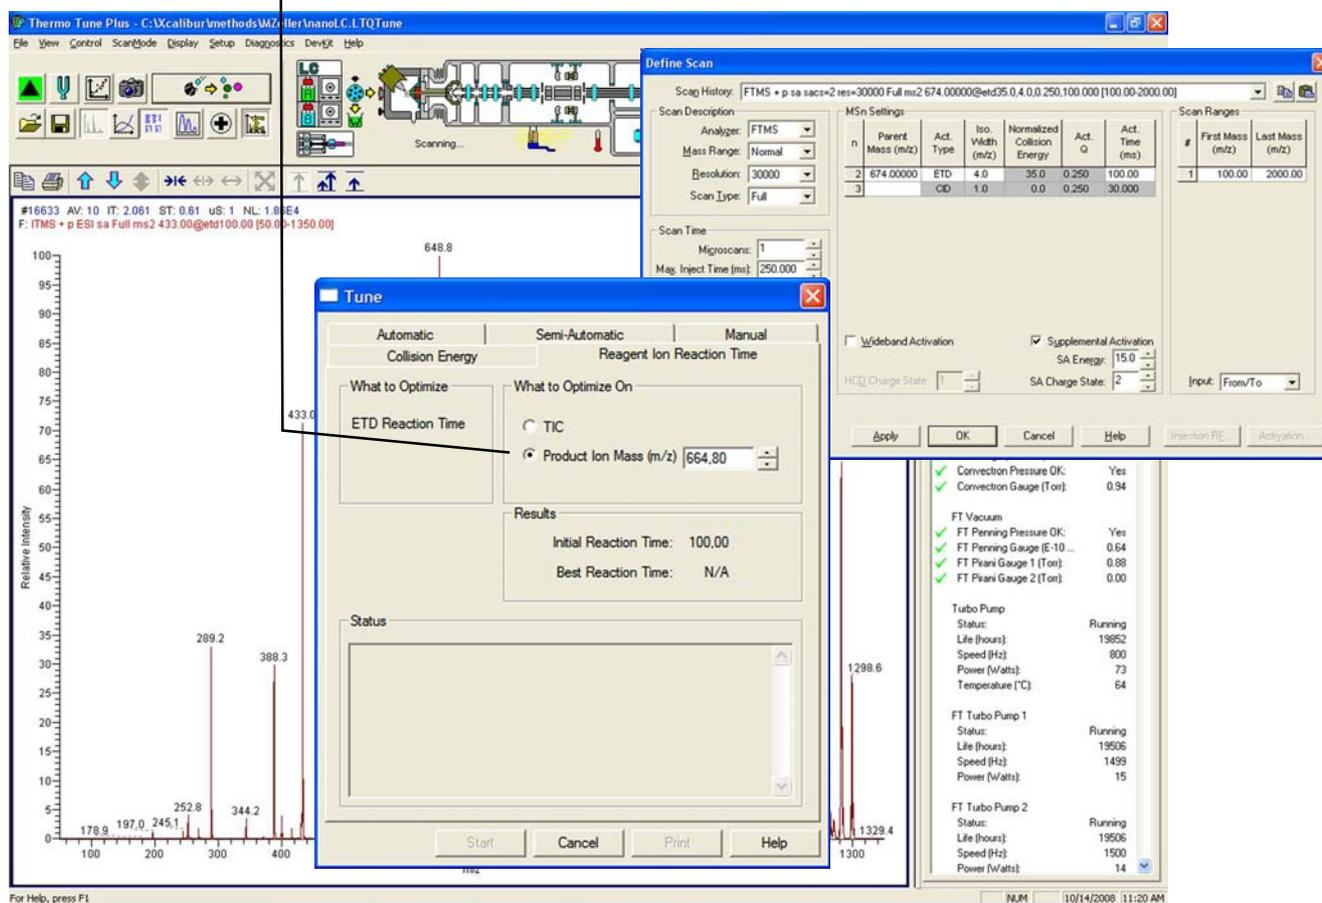

Figure 8-30. Tune window showing Product Ion Mass selected for Reagent Ion Reaction Time Optimization
- i. Click **Product Ion Mass** in the What To Optimize On section of the Tune dialog box. See Figure 8-30. The spin box adjacent to Product Ion Mass becomes active.